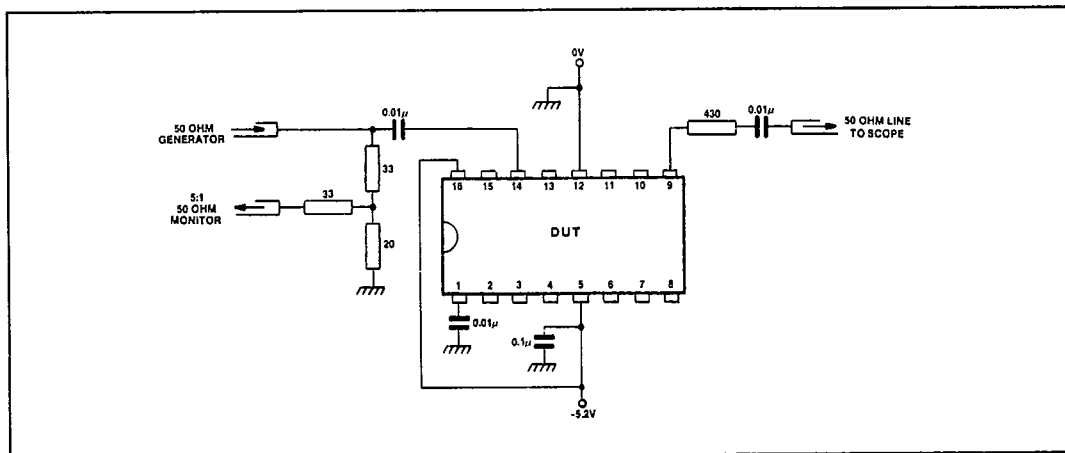

Fig.5 SP8634/5/7 high frequency test circuit
4. The test configuration for dynamic testing is shown in Fig.5.